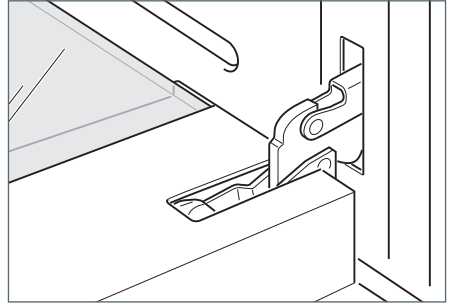

Fig.36a
- Fully open the oven door (Fig. 36a).
- 1 Make sure the door is locked open (see Figs. 36a - 36c).